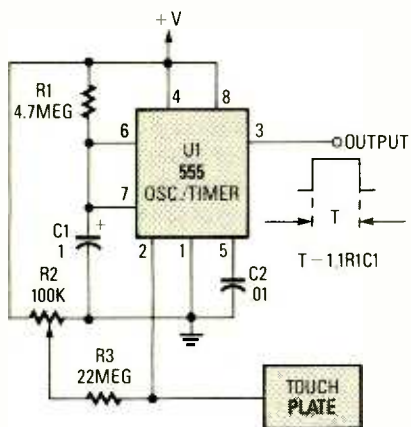

Fig. 5. The touch switch is an interesting application of a 555 monostable, in which the switching action is accomplished without mechanical switch contacts.
**Touch Switch.** An interesting type of monostable circuit—a touch switch—is shown in Fig. 5. In that circuit, the switching action is accomplished without conventional mechanical switch contacts. The circuit is basically a conventional 555 monostable, with the only major difference being its method of triggering.
With the threshold control, R2, adjusted so that the voltage at pin 2 is held above  $\frac{1}{3} +V$ , the output of the circuit remains low until triggered. When the contact plate is touched, body capacitance (effectively in parallel with R3) lowers the overall impedance between pin 2 and ground, thereby pulling pin 2 below the  $\frac{1}{3} +V$  threshold. That causes U1 to trigger, producing an output pulse of  $T = 1.1R1C1$ . The timing period should be made longer than the anticipated contact time, otherwise the timer will retrigger after completion of the first output pulse. In Fig. 5, the timing period is about 5 seconds.